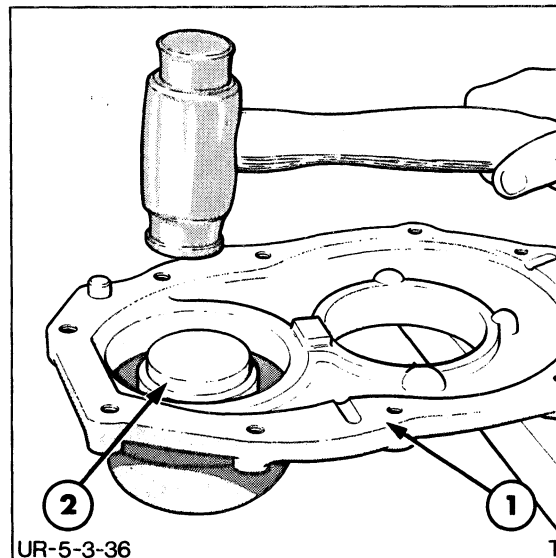

FIGURE 4-241
4. Apply a light film of oil on a new seal and install the seal using Tool No. FNH09211-13 and a soft-faced mallet as shown in Figure 4-241.